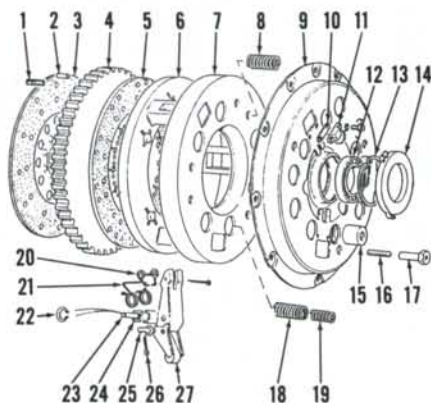

Fig. 163—Exploded view of Borg and Beck continuous type clutch showing component parts and their relative positions.
Remove release lever actuating plate (14—Fig. 163). Remove the three adjusting screws (16). Place three Code 14 spacers (from clutch tool kit) on 912917 base plate. Position pressure plate on base plate so pressure plate rests on top of spacers. Install a 912724 spacer under and a stud through each mounting hole in clutch cover. Thread studs into
Using clutch actuating tool or other suitable means, actuate release levers several times to be certain clutch springs are properly seated. Install 912723 adapter in center hole of base plate. Assemble 961845 guide pin into adapter and position Code 8 spacer on guide pin with recess side down. Install 961880 stud, 920203 gage and 961879 nut on the guide pin. Hold gage down firmly, then check clearance between each release lever and the gage. The levers must just touch gage or be within 0.05 mm (0.002 inch) of gage. To adjust clearance, add or remove shims (10—Fig. 163) under roller pads (11). A variation of 0.025 mm (0.001 inch) in shim thickness will change release lever height approximately 0.114 mm (0.0045 inch). Adjust all levers to as near equal height as possible. Remove lever adjusting gage.